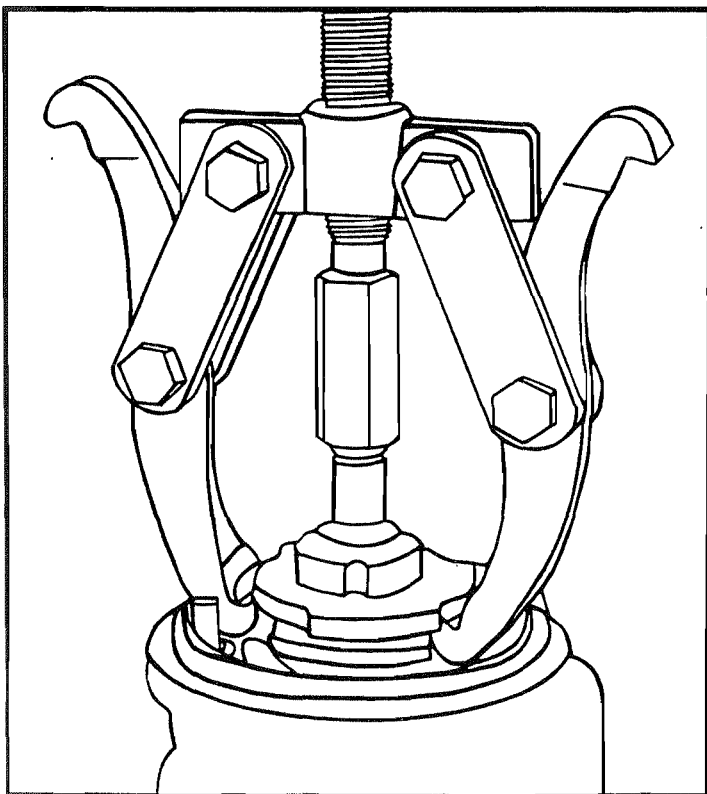

Figure 402. Removing the Impulse Coupling
- A. Using heavy gloves or a cloth, grasp coupling body (46) firmly to prevent the internal spring from unwinding suddenly. Pull outward on coupling body only enough to release it from cam assembly (48). Keep coupling body close against cam and allow body to turn as spring (47) unwinds. After one or two turns, spring coils will wedge against projections on body, restraining spring from further unwinding.
- B. Look into hole in body and note location of inner eye of spring where it engages with mating recess in cam hub. Insert a screwdriver under spring end and pry spring eye out of recess. Remove body and spring together. Uncoil spring from body and pry spring eye from body recess to disengage spring. Discard spring (47).
- C. Thread appropriate protective cap on end of shaft. Engage CG240 puller over protective cap and cam assembly with jaws of puller hooked under cam assembly as shown in Figure 402.